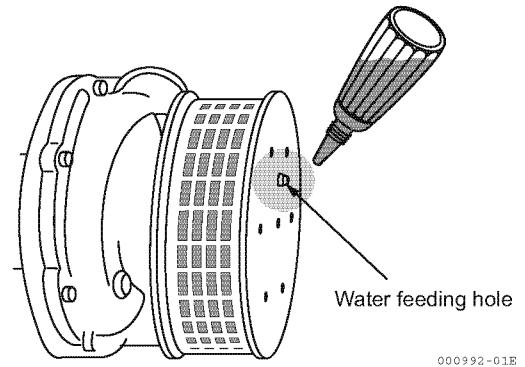

Figure 37
2. Remove the pre-filter from the intake silencer, and remove the water filler plug (**Figure 37**).